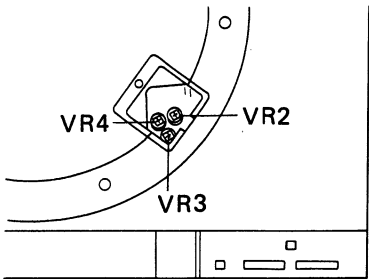

Fig. 11-1 Tracking sensor zero adjustment
- 2. Then move arm elevation up and down several times and return it to the up position. Check that the voltage across TP1 - TP2 does not exceed  $\pm 2V$  (Fig. 11-1).
- 2. Keep the locate-in button (◀) depressed at the 1st level, and adjust VR4 so that the stylus tip moves at a rate of 50mm in 7.1 $\pm$ 0.7 seconds (Fig. 11-1).
- 3. In the same way, keep the locate-out button (▶) depressed at the 1st level, and adjust VR3 to again obtain at stylus tip movement of 50mm in 7.1 $\pm$ 0.7 seconds (Fig. 11-1).